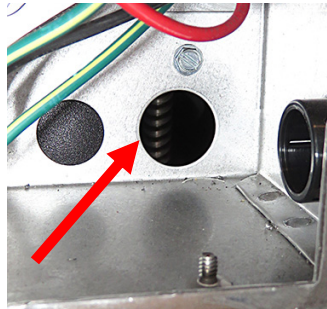

Figure 12
13. Locate an unused opening in the lower rear of the control box and knock out the grommet (see Figure 12).